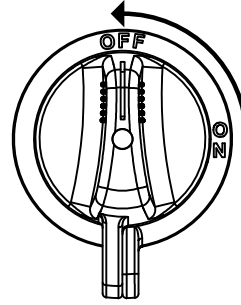

Figure 51. Battery Switch (OFF)
5. Place the **Battery switch** (Figure 51) in the **OFF** position.